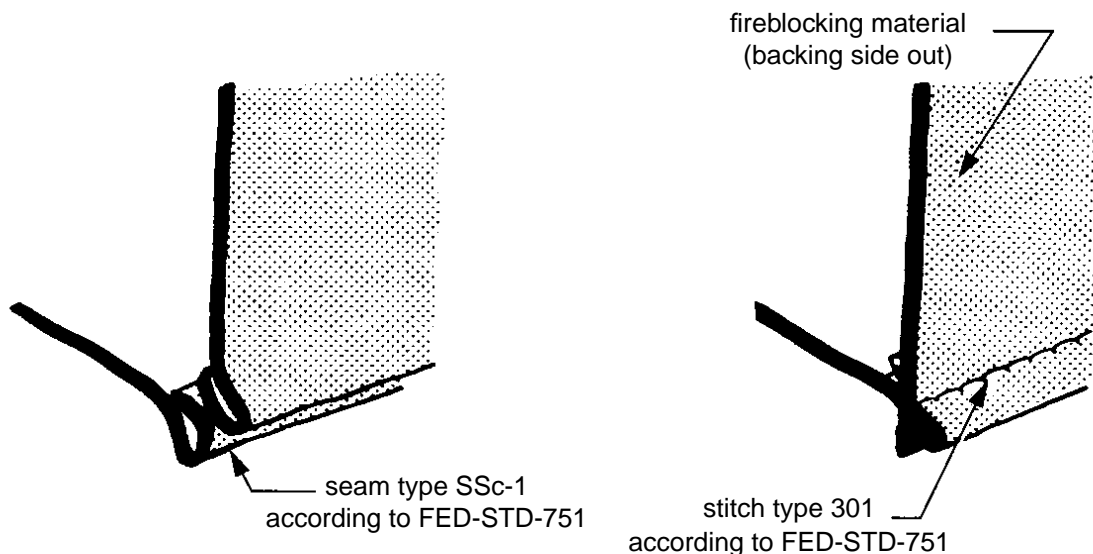

FIGURE 4 - CLOSING SEAM
- The closing seam must be SSc-1, according to Federal Standard 751. Form the closing seam by turning the edge of both pieces of fireblocking material to the inside and stitch, using a suitable sewing machine, to close with one row of stitches (see Figure 4).